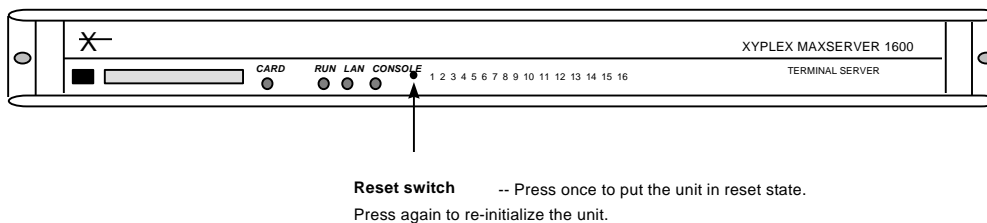

Figure 29 - RESET Switch Location
2. Look for the small hole between the CONSOLE light and the light labeled '1' (see Figure 29).